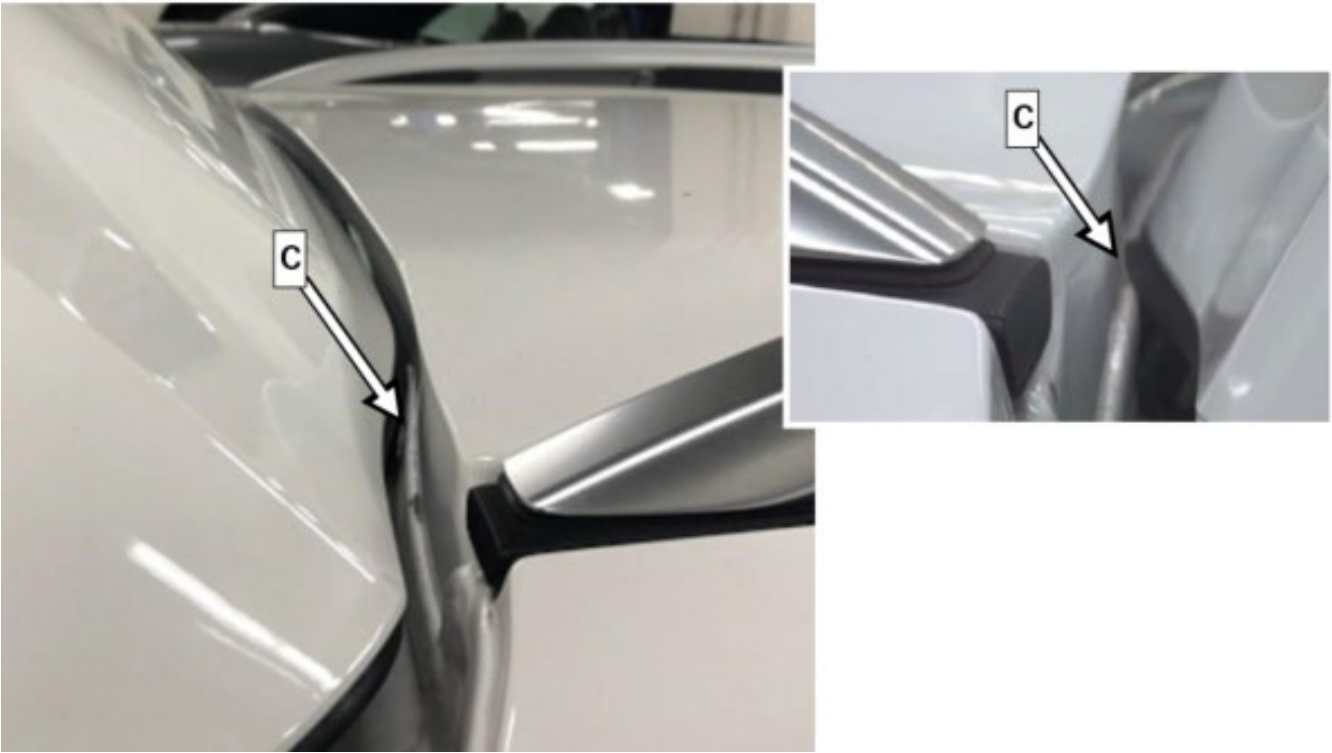

Figure 8
6. Open and close tailgate and check whether the spoiler lip brushes against the seam seal in the area of the roof edge (C, Figure 8).
2. Check again whether the spoiler lip brushes against the seam seal in the area of the roof edge (**C, Figure 8**).